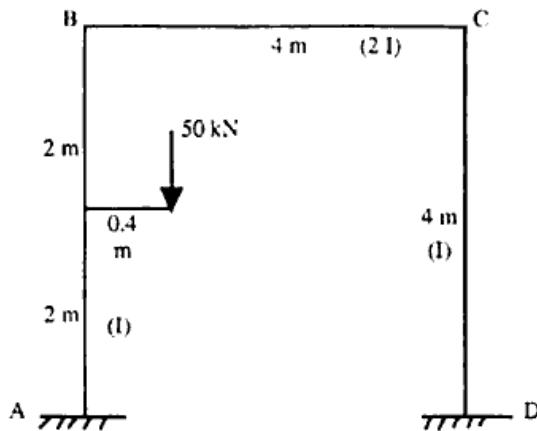

Fig. 1
1. Analyse the Portal frame as shown in Fig. 1 by slope deflection method, also draw BMD.
2. Analyse the Portal frame as shown in Fig. 1 by moment distribution method, also draw BMD.